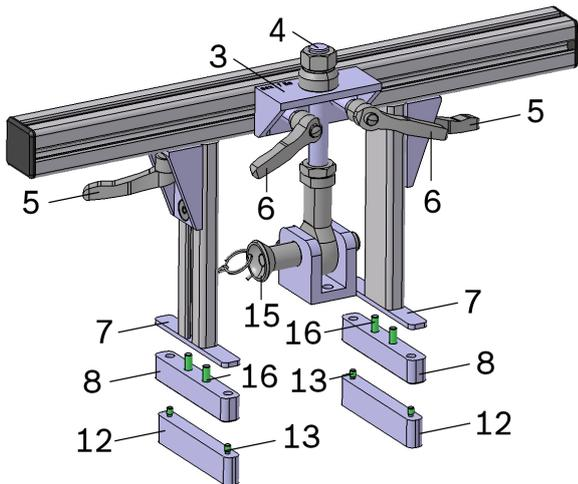

Figure 3: Support bar
Position both discs (7) and both bases (8) on the support bar (see Figure 3).